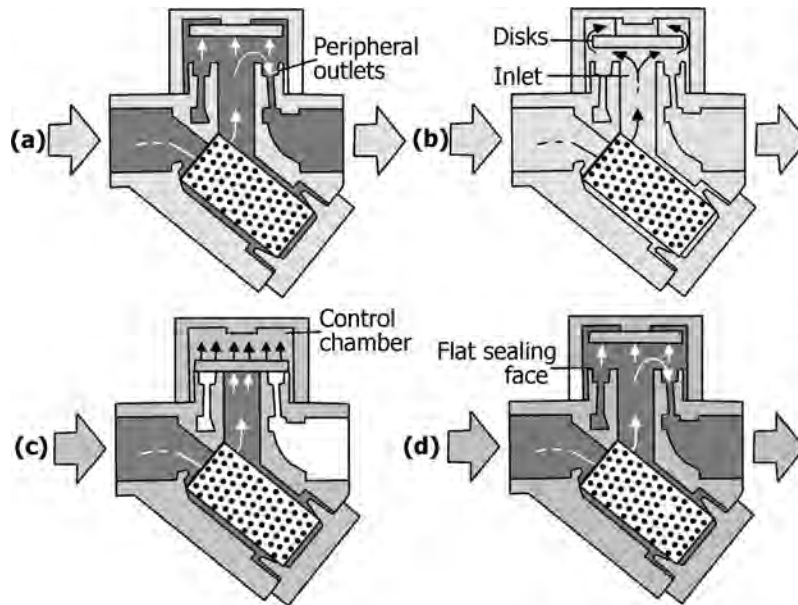

FIGURE 12.24 Operation of a thermodynamic steam trap. (Courtesy: Spirax Sarco.)
- The thermodynamic trap operates by means of the dynamic effect of flash steam as it passes through the trap, as shown in Figure 12.24. The only moving part